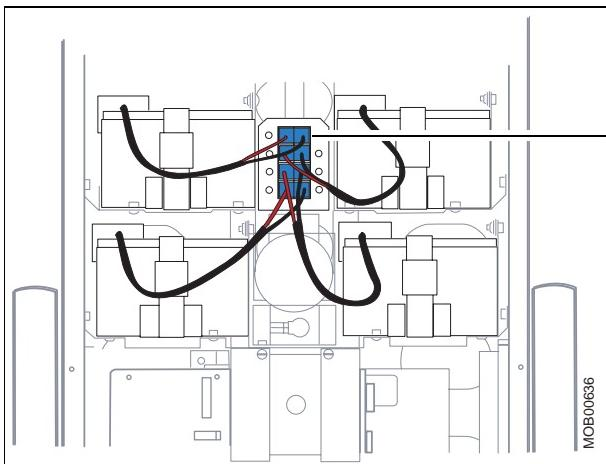
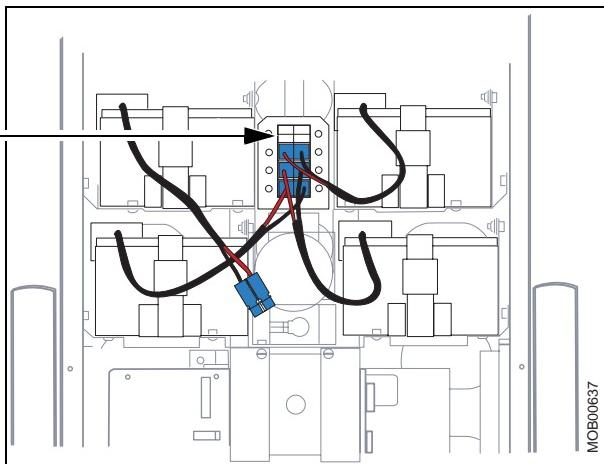

Fig. 3
Fig. 4
- Disconnect batteries by removing one of the KBATT plugs (refer Fig. 3 and Fig. 4).